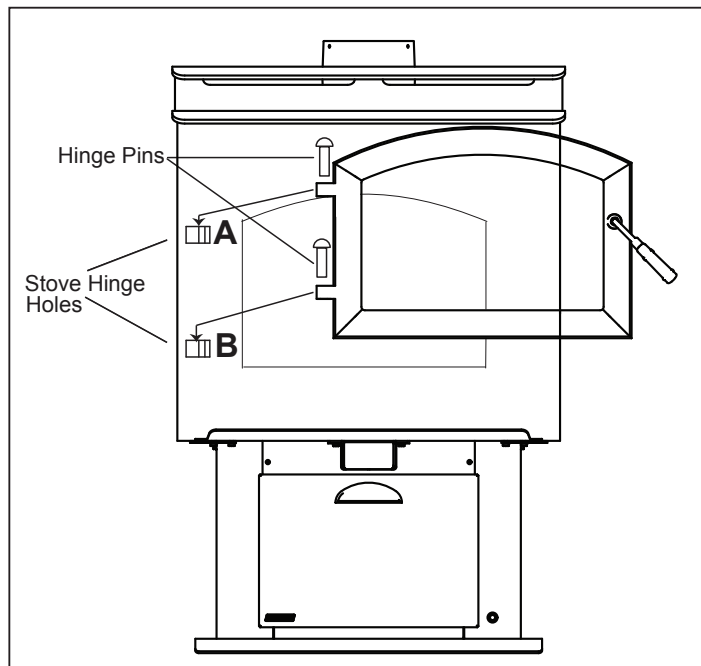

Figure 5.1
2. Place the door on the front of the appliance, carefully lining it up with the appliance hinge holes. See Figure 5.1